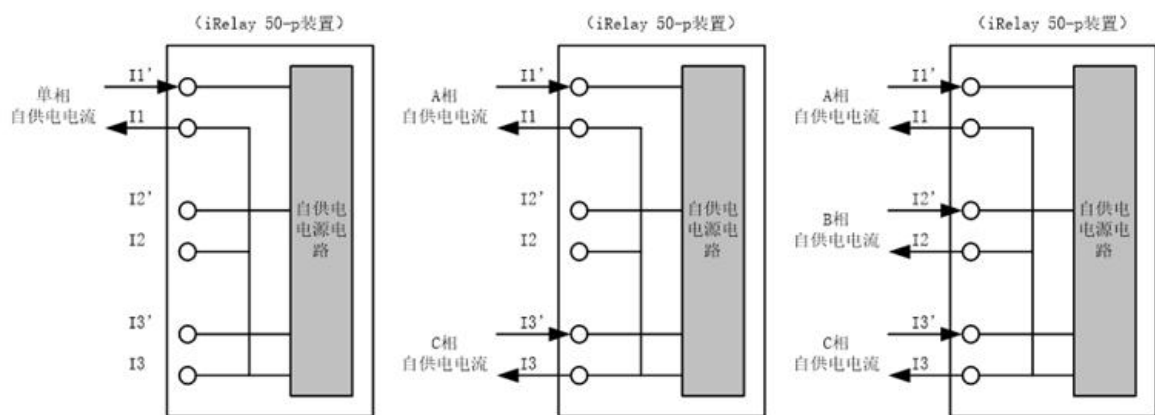
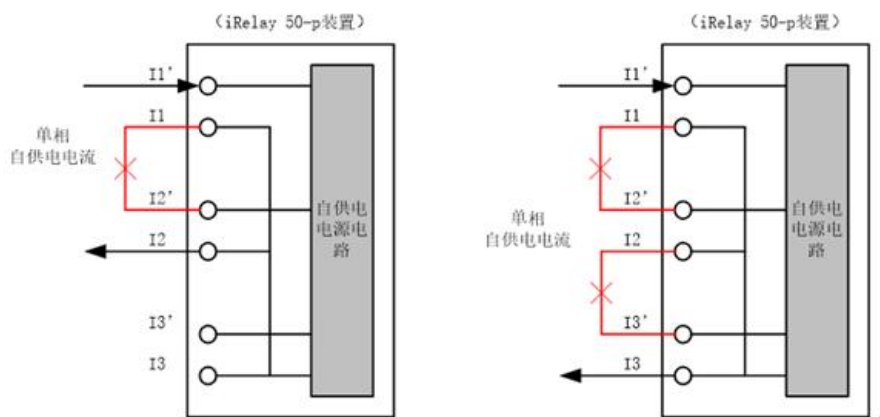

Figure 6-1 Correct wiring method of self-powered power supply
Figure 6-2 Incorrect wiring method of self-powered power supply
Usually connected to the special winding of the current transformer (see section 1.4.2 for the technical requirements when ordering, and see Figure 6-1 and 6-2 for the wiring diagram);
C) It is recommended to connect the two-phase or three-phase self-powered current according to the requirements of the typical wiring diagram (Figure 6-1, Figure 6-2)
D) During debugging, the self-powered current loop of the device can be connected to single-phase, two-phase or three-phase self-powered current. If it is connected to single-phase or two-phase self-powered current, the other non-powered phases can be suspended (see Figure 6-1)
E) Since the three terminals I1, I2, and I3 have been short-circuited inside the device, it is strictly forbidden to connect the three-phase or two-phase I1', I2', and I3' to the current, otherwise the device will be burnt out! Refer to Figure 6-1 for correct wiring and Figure 6-2 for incorrect wiring.